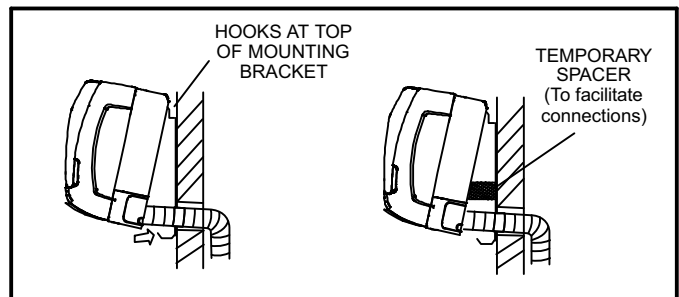

Figure 7. Secure Unit to Wall Mounting Bracket
- 5 - The bottom of the unit can be lifted to facilitate refrigerant piping and condensate drain connections, if necessary. See figure 7.